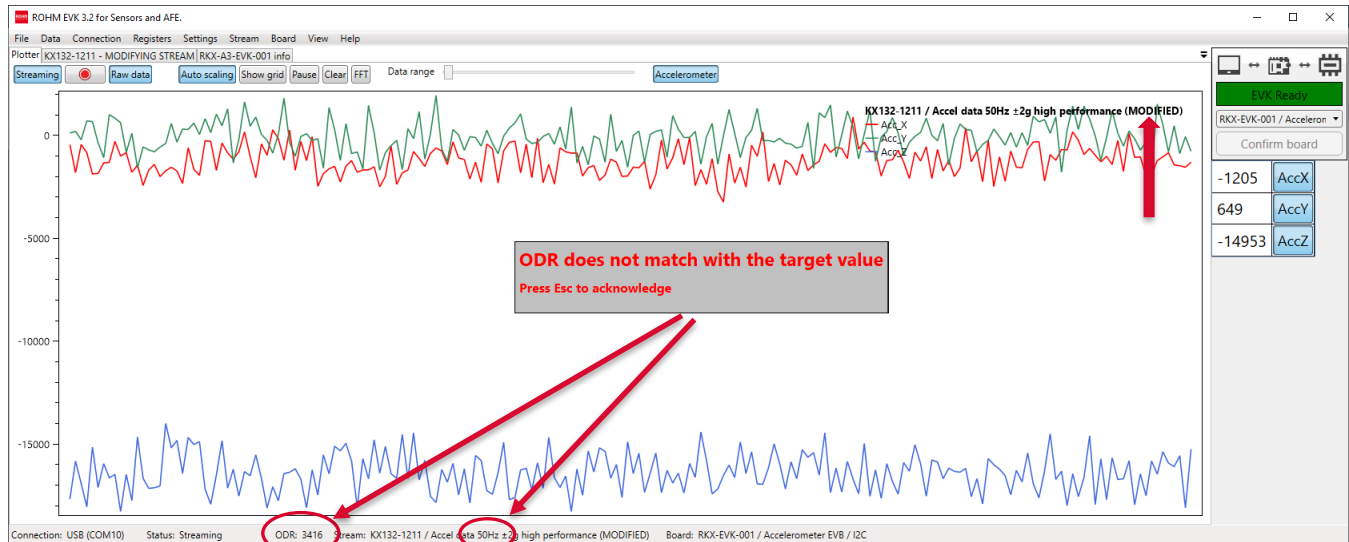

Figure 78. The Plotter View After Modifying the Register Values
**NOTE:** When registers have been changed, "(MODIFIED)" text will be shown after the stream name in the Plotter View area (Figure 78).
**NOTE:** When ODR value has been changed through the register editor, the "ODR has not reached the target value" pop-up message may appear because the new real-time ODR is significantly different from the original ODR value defined in the stream (Figure 78). The ODR pop-up message can be disabled through the View menu (1.3.8. View - Menu)